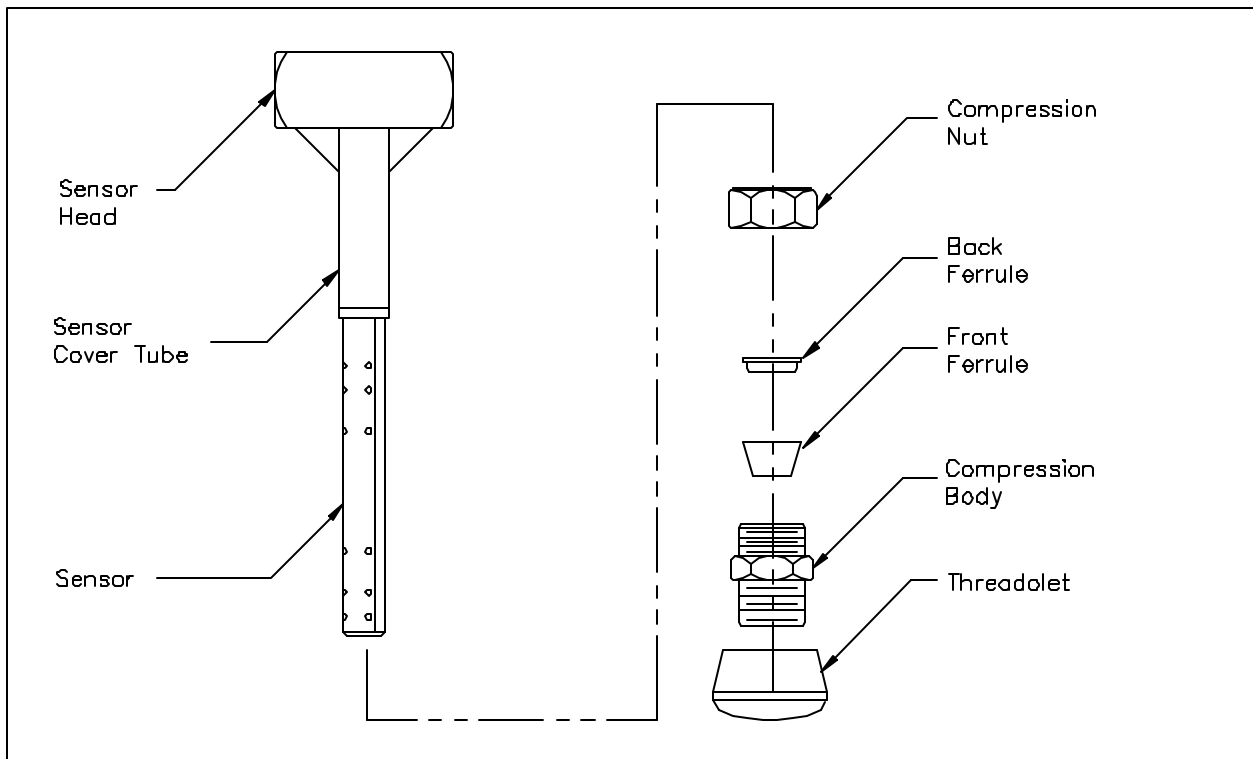

Figure 2. Verabar Model V100
- Loosely assemble the sensor, compression nut, back ferrule, front ferrule and compression body to the threadolet (hand tight) and insert the sensor assembly into the pipe. The back ferrule and front ferrule must be in the proper sequence and orientation as shown in Figure 2.